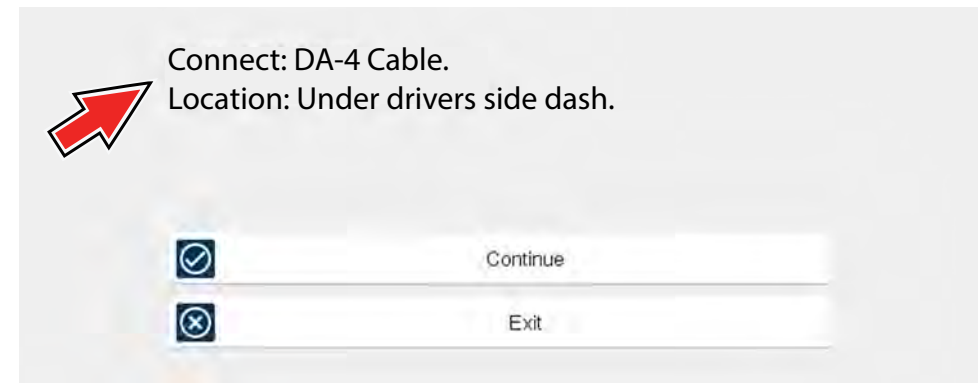

Figure 4-2 Vehicle data cable connection information
2. After identifying the vehicle using the Scanner or OBD-II/EOBD function (see Vehicle Identification on page 15) review any on-screen information that may be provided for data cable connection, usage and DLC location (Figure 4-2).